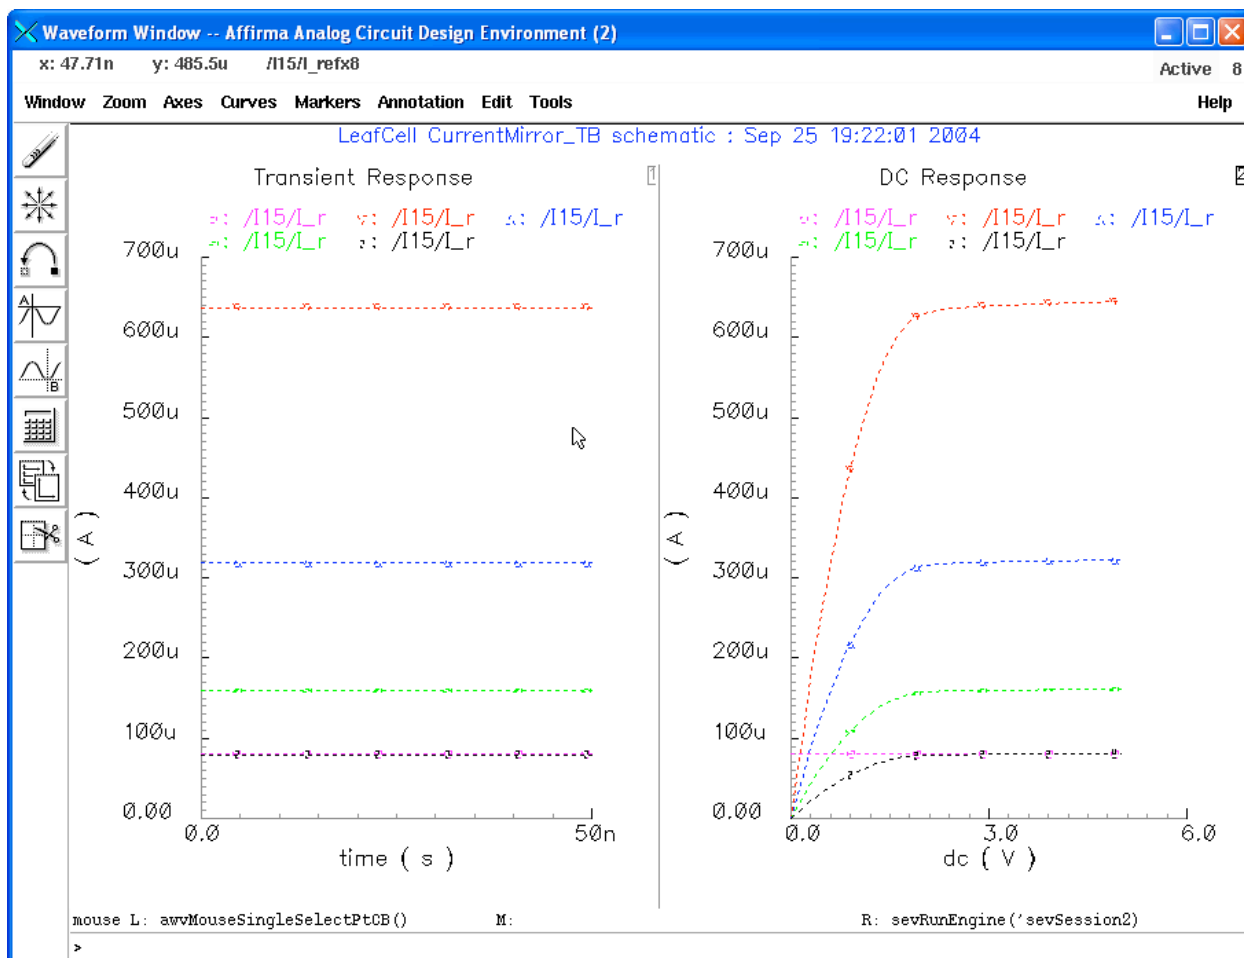

Figure 121: Setting up the Affirma to simulate the PF.
19. Run the simulation, and then the result should look like Figure 121.